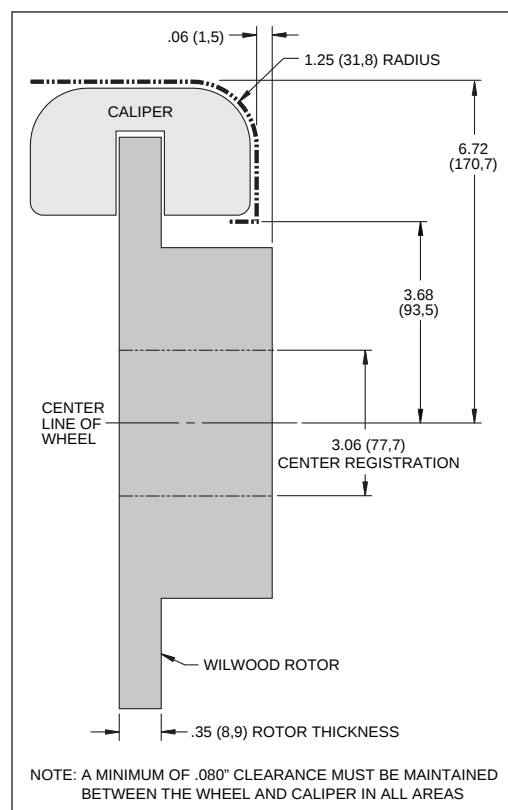

Figure 3. Wheel Clearance Diagram
- Review the Wheel Clearance Diagram (Figure 3, below) to verify that there is adequate clearance with the wheels you will be using with the installation.